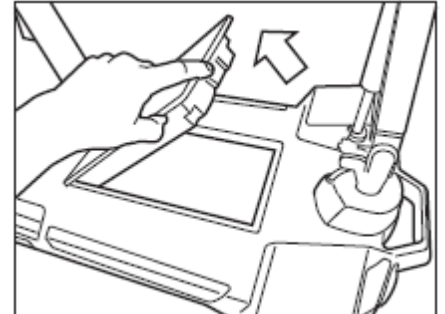

Figure 1.
4. Press the battery pack release button and remove the battery pack. See figure 1.